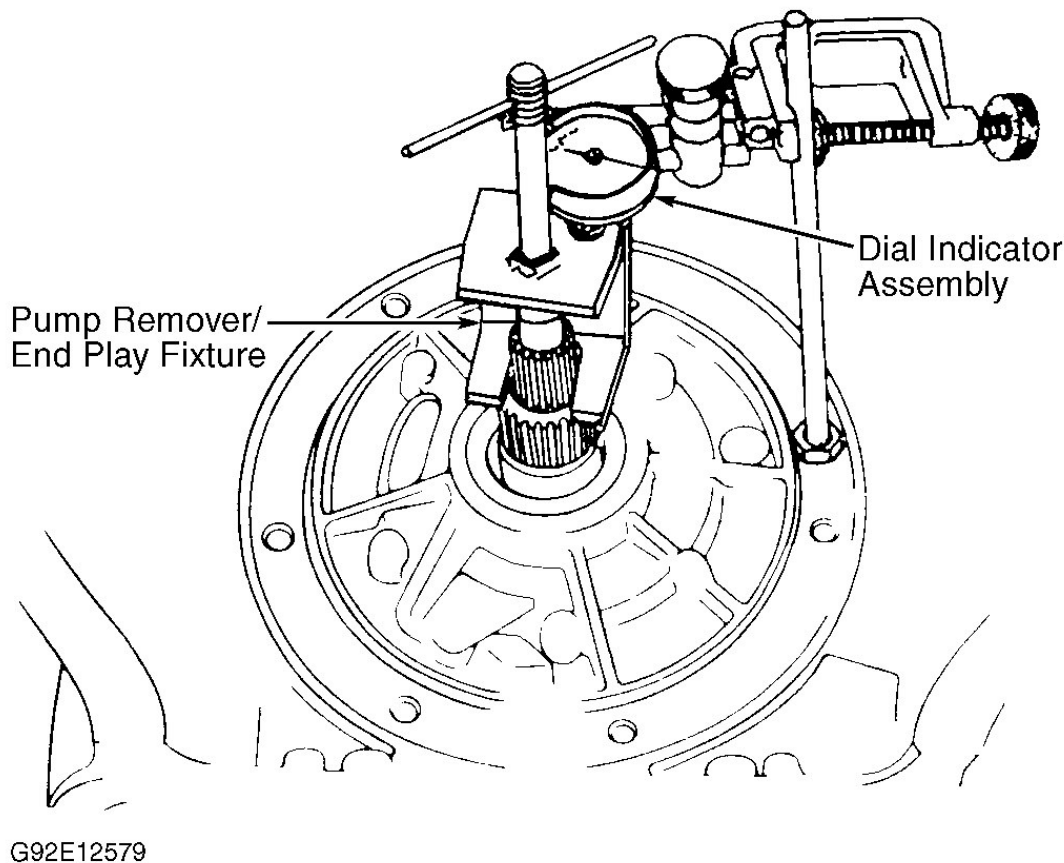

Fig. 20: Checking Transmission End Play
1. Install Pump Remover/End Play Fixture (J-24773-A) and End Play Adapter (J-25022-A) on end of turbine shaft. See **Fig. 20**.